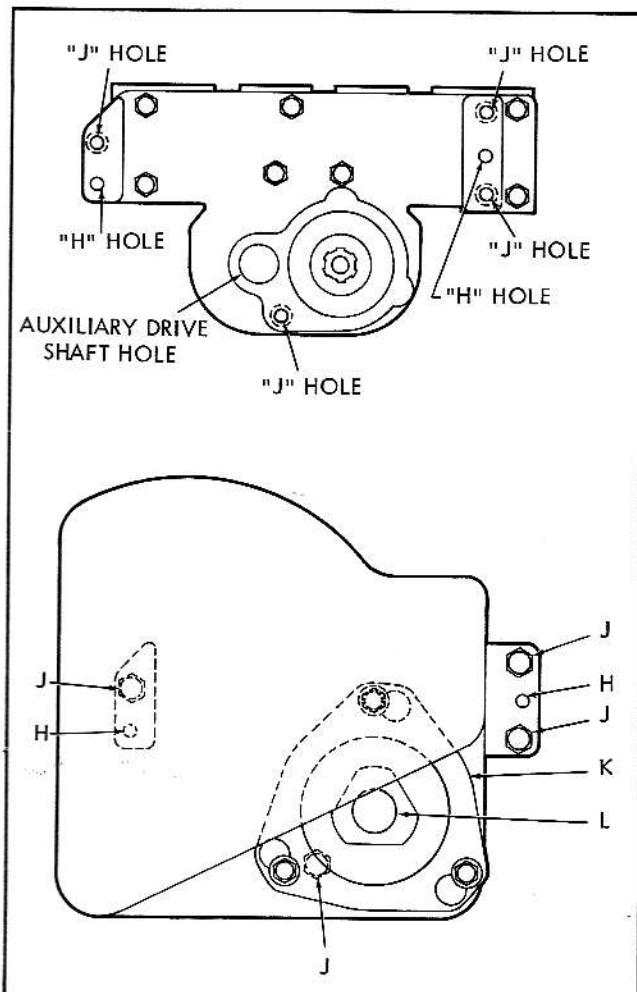
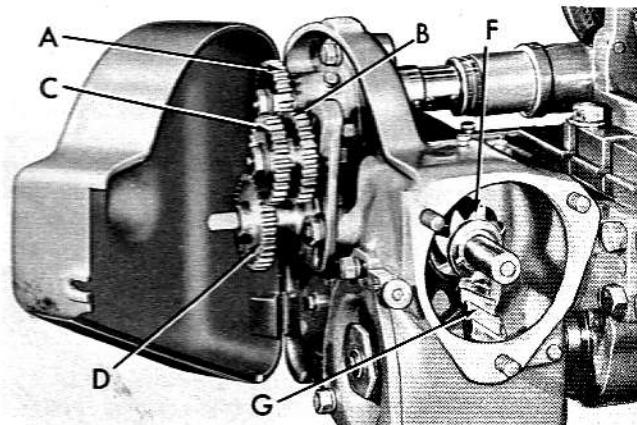

Fig. 8. Mounting Low Lead Attachment
Fig. 9. Gearing in Low Lead Attachment
2. Insert the auxiliary drive shaft supplied with the lead attachment through the hole indicated in Figure 8 and into the splined hub of the drive gear in the saddle. Push the shaft in as far as it will go.
3. Remove the cover (K) and the table screw extension (L) from the lead attachment.
4. Lift the lead attachment into position on the table screw and auxiliary drive shaft so that the two dowels (H) enter the two "H" dowel holes.
5. Insert the four screws (J) to secure the attachment in position.
6. Position the worm and worm wheel (F and G, Figure 9) according to the lead selected, then replace the table screw extension and the cover.
Figure 9 illustrates the position of the worm and gears in the lead attachment and identifies each by means of a letter. The particular worm, worm wheel and gear to use in each position for a desired lead are listed in Table 3 at the rear of this book.
The values of A, B, C and D are the number of teeth in the gears A, B, C and D in Figure 9.